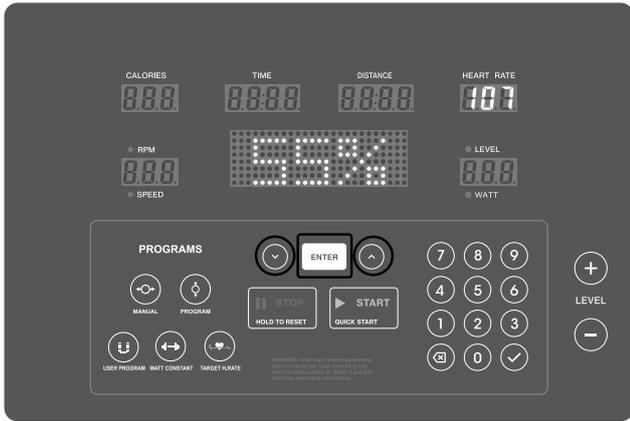

FIGURE 18
5. Choose one of the four programmes (55 %, 75 %, 90 %, or TAG) using the arrow keys (Figures 18–19).
① NOTICE